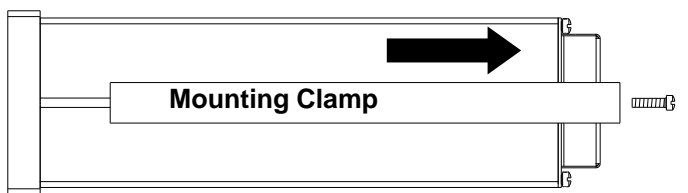

Figure No. 3
4. Slide both mounting clamps toward the rear of the indicator and remove. See Figure No. 3.